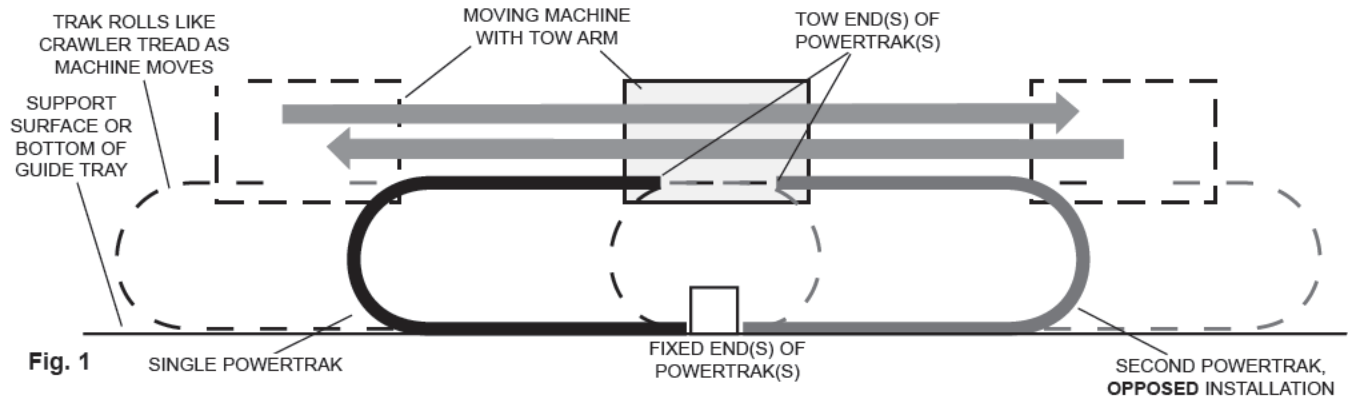

Fig. 1
The GLEASON POWERTRAK CABLE AND HOSE CARRIER is a modular system that controls and protects electric cables and hydraulic or air hoses supplying power to machine components, robots, etc. It consists of links hinged together to form a continuous trak of the proper length. Carrier elements between the links support the cables and hoses. One end of the trak is fixed within a guide tray or on some other support surface. The other end is fastened to a tow arm on the movable machine. Depending on the application, POWERTRAK may be installed singly (from one end of travel), or double (opposed). See Figure 1. NOTE: If installation includes guide tray or tray and carriage, assemble tray at step 3 and carriage at step 9 following separate instruction provided with those components.
STEP 4: Locate FIXED END anchor points. Refer to Figure 1, above.
STEP 8: Bolt brackets on **FIXED END** of trak to bottom of guide tray or other support surface. (Refer to Figure 1.)
STEP 10: Bolt brackets on **TOW END** of trak to tow arm on machine. (Refer to Figure 1.)